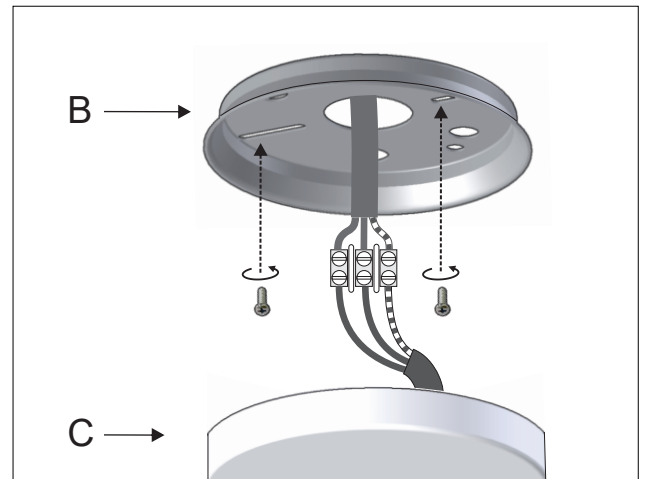

Figure 2
2 - Insert the main electrical cable through the mounting bracket (C) and fix it to the ceiling. Connect the electrical wires. Figure 2.